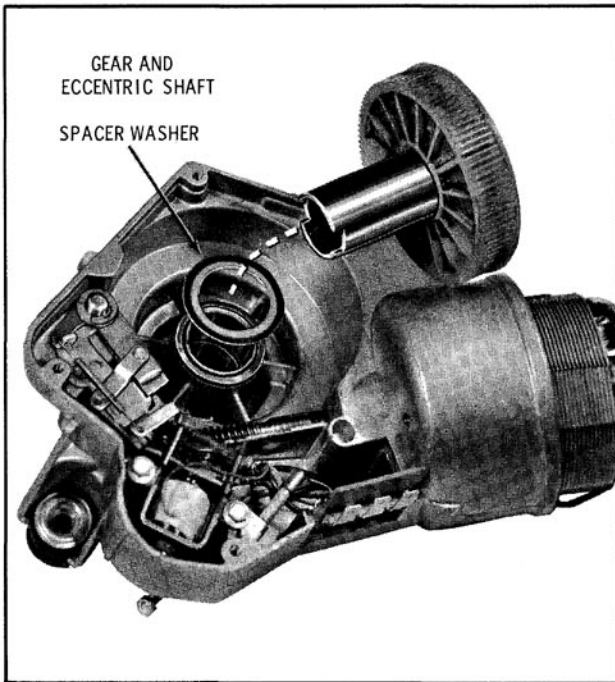

Fig. 13-142 Spacer Washer Location
5. Remove gear mechanism from the gear box and slide spacer washer off the gear assembly eccentric shaft. (Fig. 13-142)